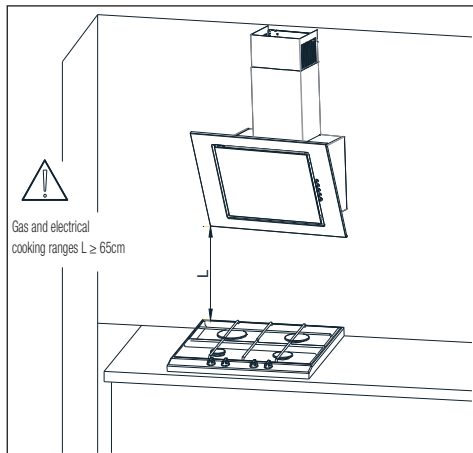
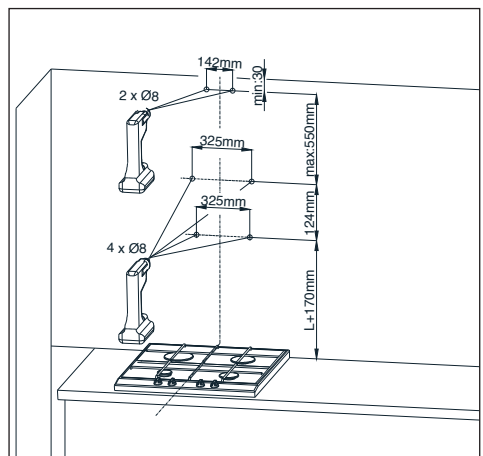
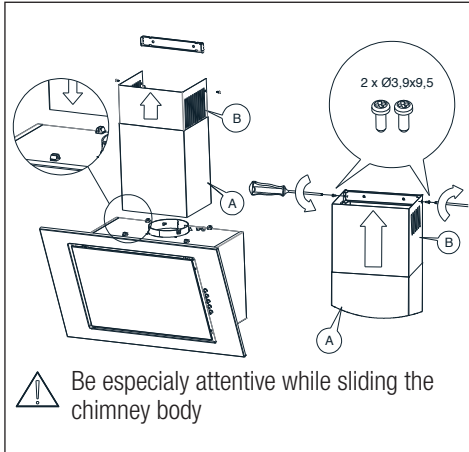

Fig.3 Recommended distances from the cooking range
Fig.4 Assembly dimensions
Fig.9 Chimney body assembly
The minimum distance of hood hanging between the surface of kitchenware placement over the cooking range (gas, electric range), and lowest part of the hood (Fig.3) shall amount at least 65 cm for electrical cooking ranges and for gas cooking ranges. Should the cooking range operation manual provide the higher distance for hood installation, such higher distance requirement shall be maintained. The installation of the hood and chimney body is shown at the figures (Fig.4 - Fig.9). The hood is equipped with the fixing pins matching to the most part of walls and ceilings. In course of the assembly, observe the common rules for air exhaust from the premises.
1. Define the axis of cooking range, and project it onto the wall, where the hood will be mounted. Sign all characteristic points of hood fastening. Make the openings with the drill. (Fig. 4)
Place the chimney body on the hood body. Then, draw delicately the hood part signed with B upwards, until it becomes possible to screw it to the fastening element previously attached to the wall (Fig. 9).